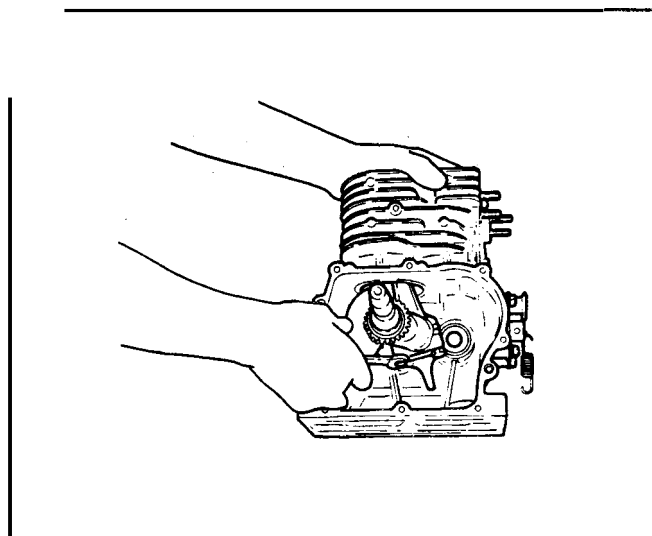

Figure 79
37. Remove the connecting rod nuts, splash plate (with locking tabs) and rod cap. Please take note of the orientation of the rod cap for proper reinstallation. See Figure 79.